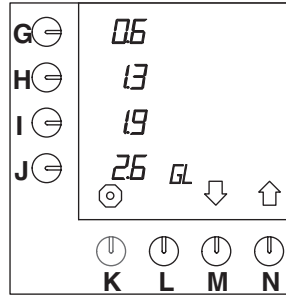

Fig. 29 Adjusting pre-programmed selection keys for gallons
- Press selection key (N.) \uparrow until fig.29 appears on the display.